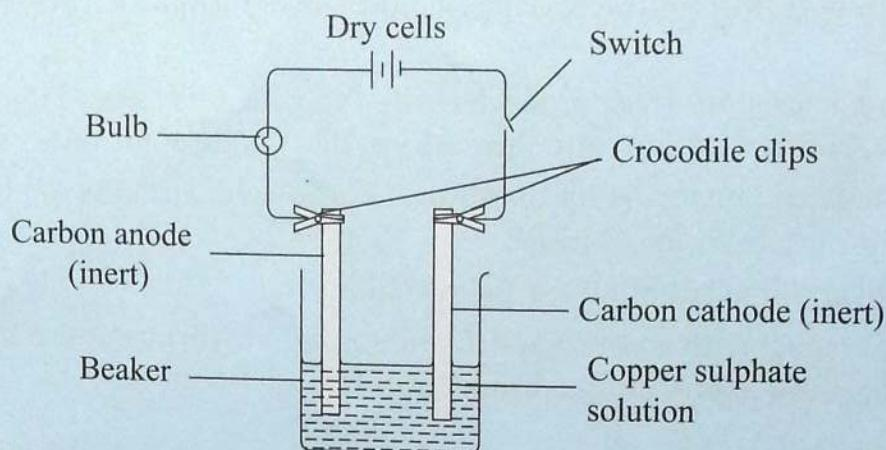

Fig. 4.9: Electrolysis of copper sulphate using carbon electrodes
2. Set up the apparatus as shown in Fig. 4.9 below.